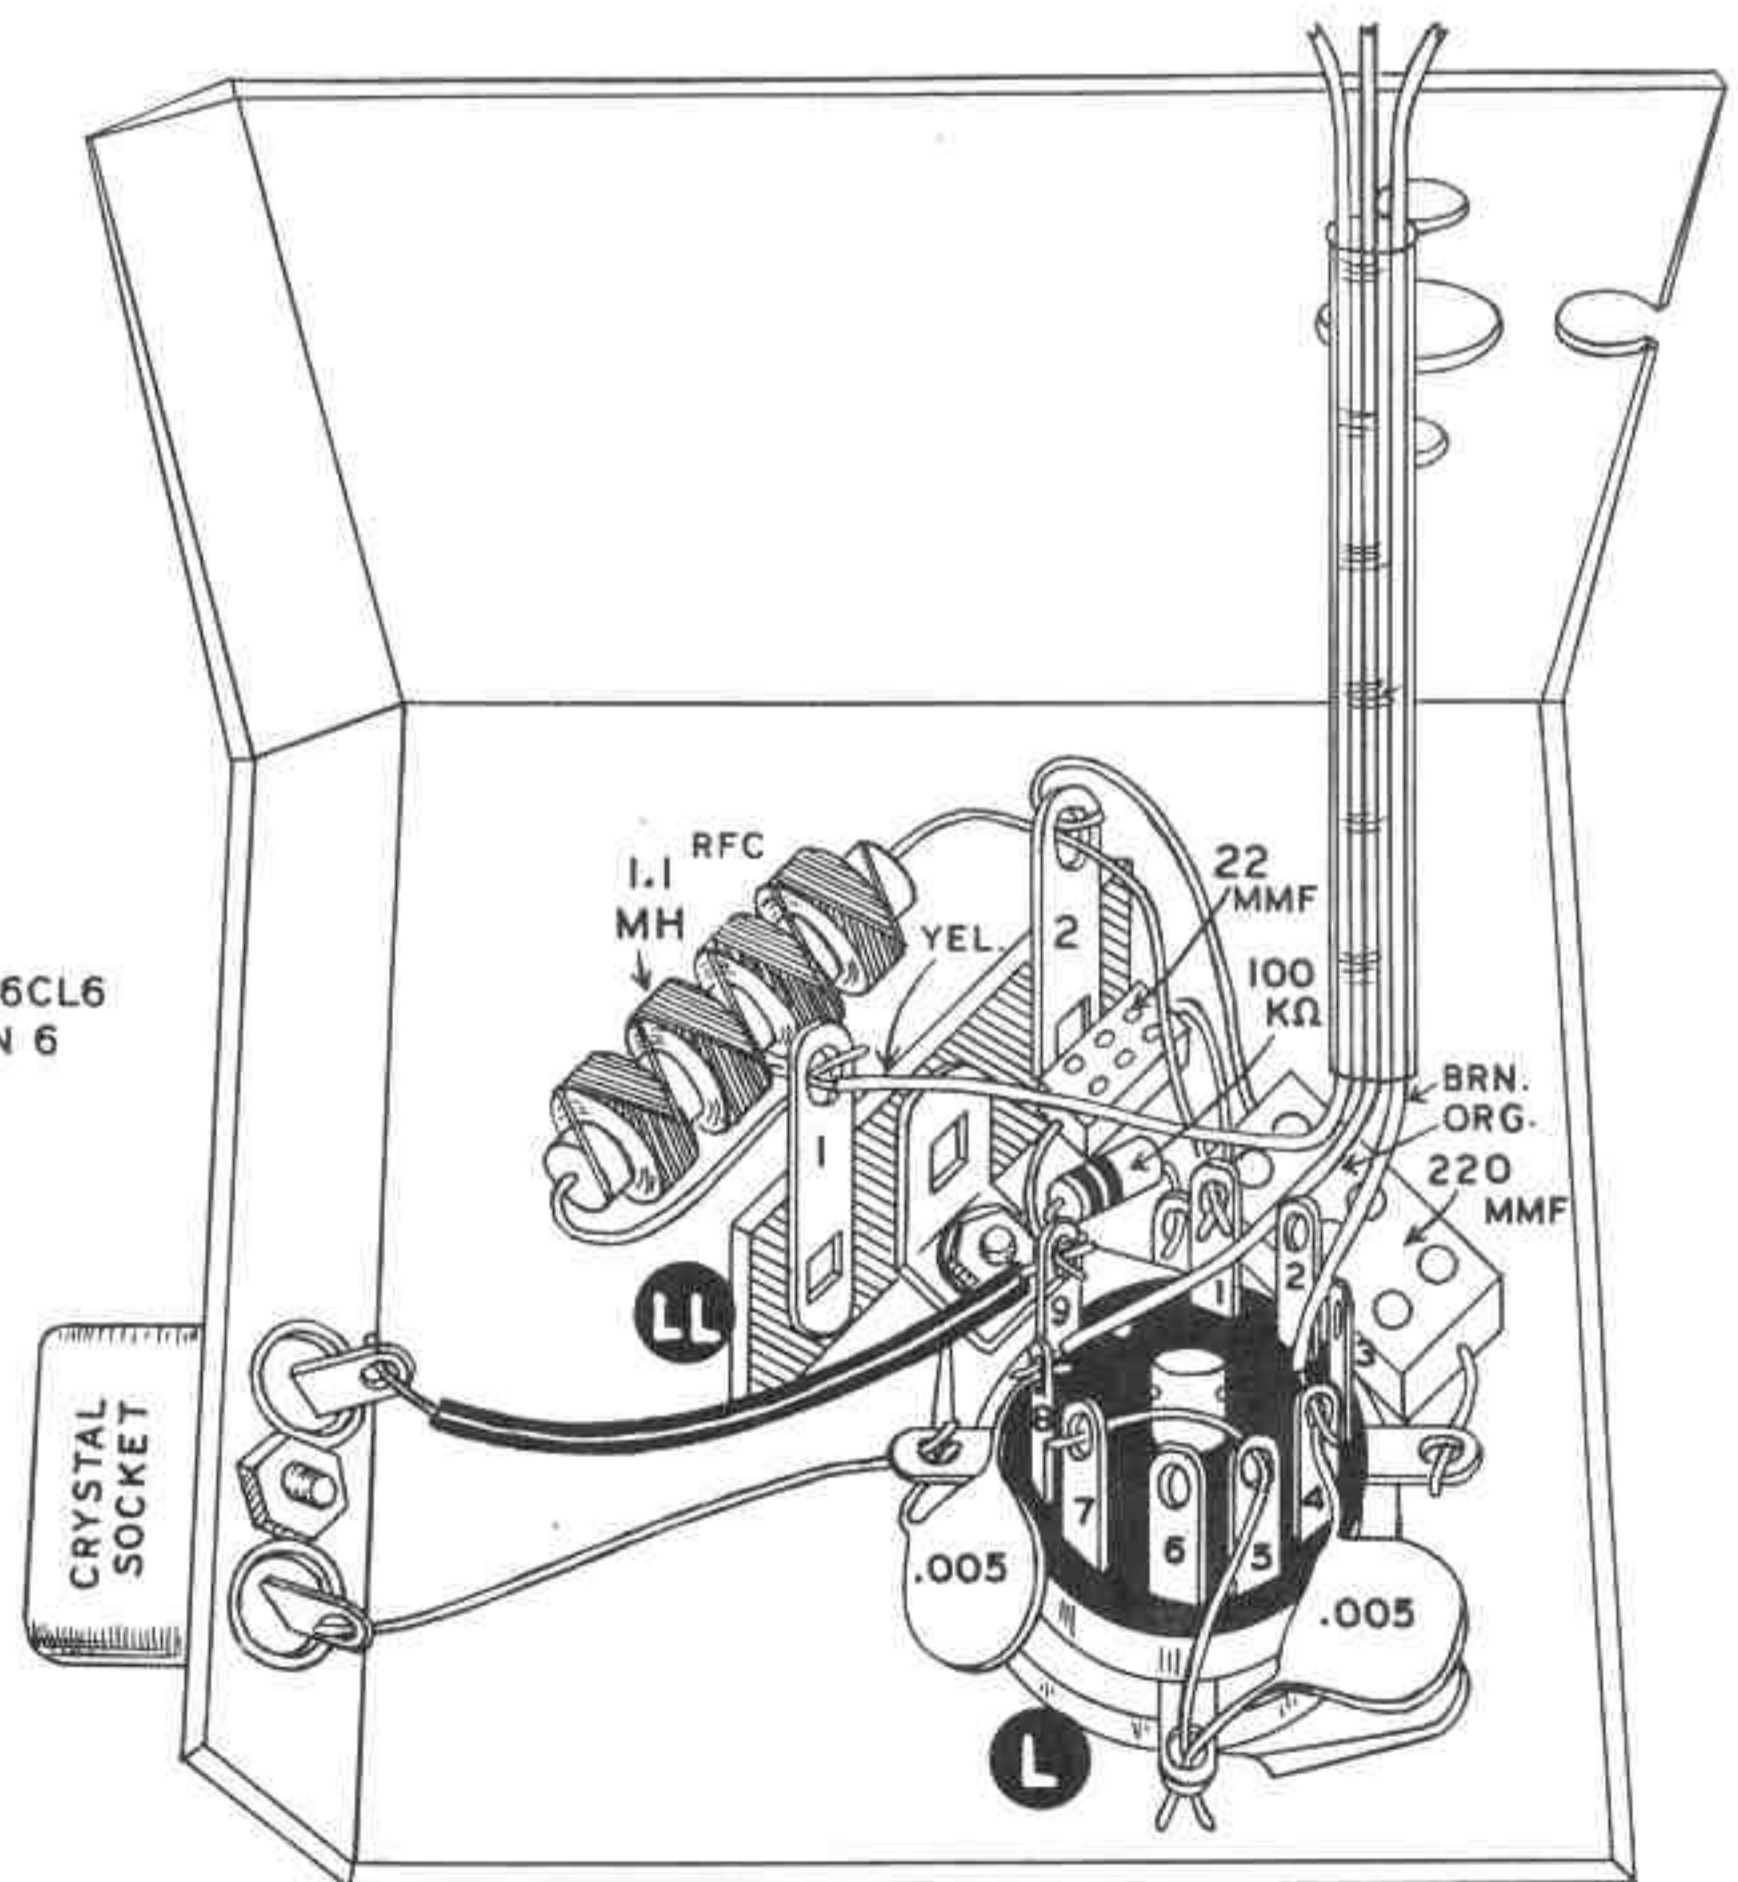

Figure 10
- () Mount the crystal socket on the "L" bracket as shown in Figure 10. Use the one 4 - 40 x 1/2" machine screw and allow the flat sides of the 4 - 40 nut to recess between the socket pillars. A lockwasher is not used. Tighten with a small screwdriver. NOTE: If none of the remaining small nuts fit the 4 - 40 x 1/2" screw, then the 4 - 40 nut must have been used on one of the 3 - 48 screws to mount the coax socket.
- (✓) With the capacitor lying flat, bend both leads to a right angle edge-wise. Mount on top of the 100 K resistor and connect to pin 1 (NS) and pin 9 (NS). Refer to Figure 10.
- (✓) Thread the 1 1/4" lead through LL2 (NS) and continue to pin 1 on the 6CL6 socket L (S).
- (✓) Connect the 7/8" lead to LL1 (NS).
- (✓) Position the capacitor flat against the bracket in the position shown in Figure 10. Connect the 5/8" lead to ground lug 2 (S).
- (✓) The 1" lead is formed up and through LL2 (S). See Figure 10.
- (✓) Connect one end to ground lug #4 (NS).
- (✓) Connect the other end to the outside crystal socket terminal (S).
- (✓) Connect one end to the #4 ground lug (S).
- (✓) Connect the other end to pin 8 on the 6CL6 socket (NS).
- (↪) Connect one end to pin 9 (S).
- (↪) Connect the other end to the crystal socket connection nearest to the RFC (S). See Figure 10.
- (↪) Connect one end to the #3 ground lug (S).
- (↪) Connect the other end to pin 4 (NS).
- (↪) Connect one end to tie point LL1 (S). Leave the other end free.
- (↪) Connect one end to pin 8 (S). Leave the other end free.
- (↪) Connect one end to pin 4 (S). Leave the other end free.